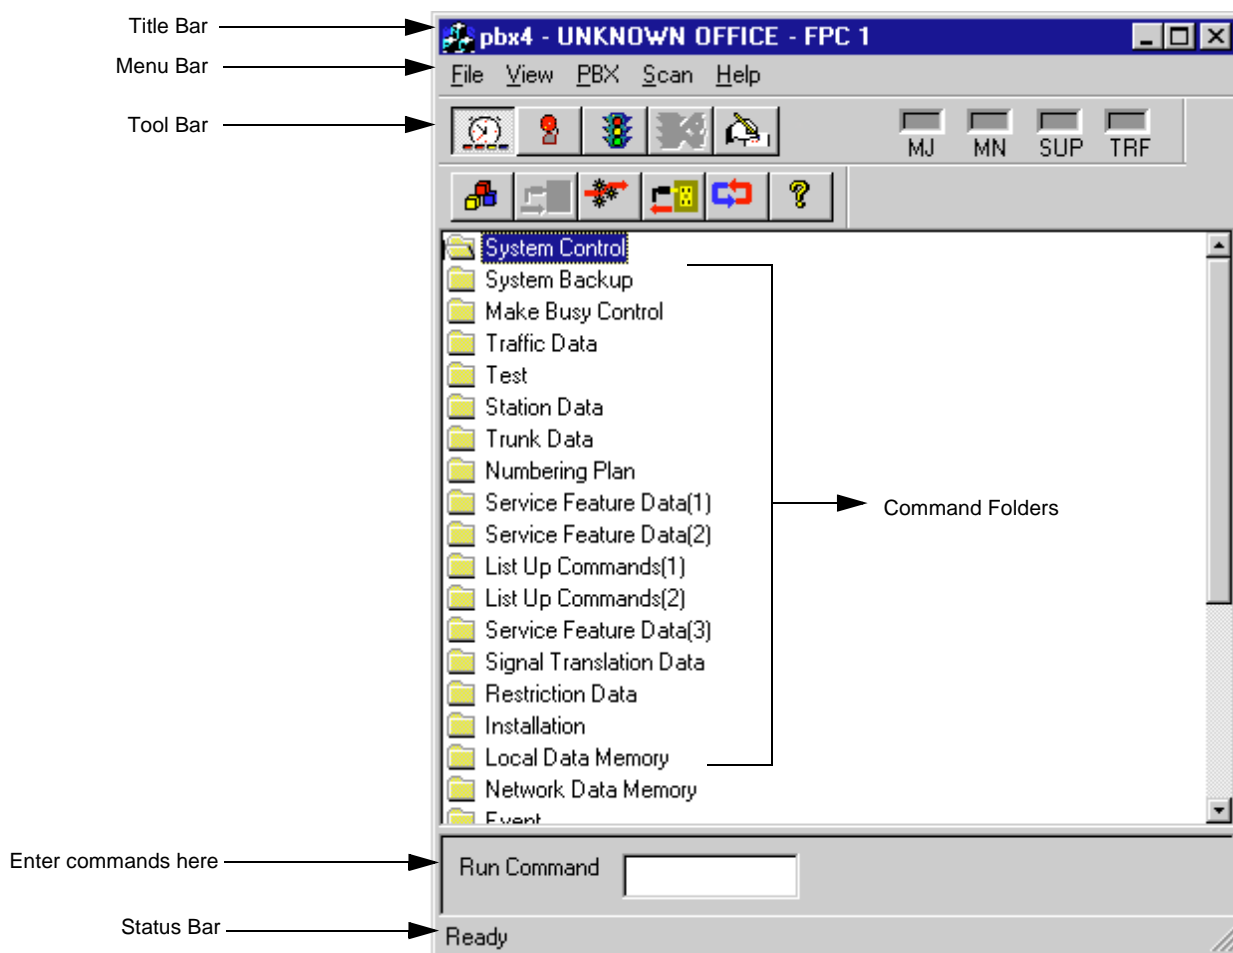

Figure 2-18 IPXMAT Main Menu
- To run the IPX MAT software, click the IPX MAT icon on the desktop or select it from the Start/Program menu. The IPX MAT menu displays as shown in Figure 2-18.